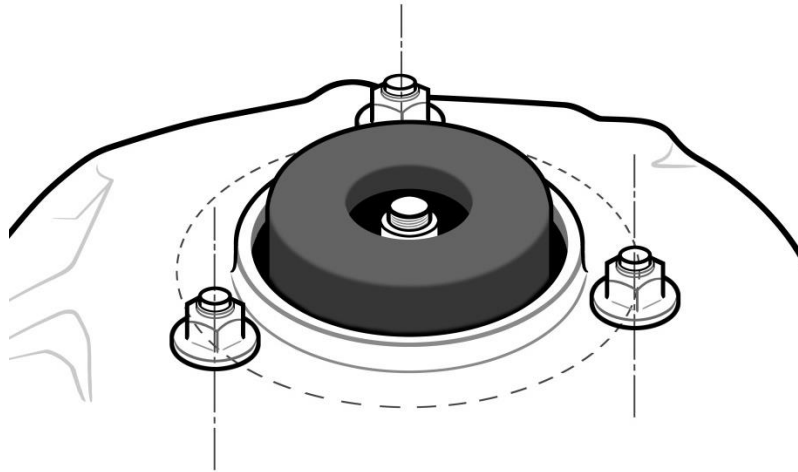

Figure 6
- E. MacPherson strut upper mount pivot must remain within the centerline dimension of the OEM unaltered factory bolt pattern on the chassis. Refer to Figures 6 and 7. The OEM pattern on the chassis must remain unaltered and be the only means of mounting the upper strut mount. All OEM bolt holes must be present and utilized.